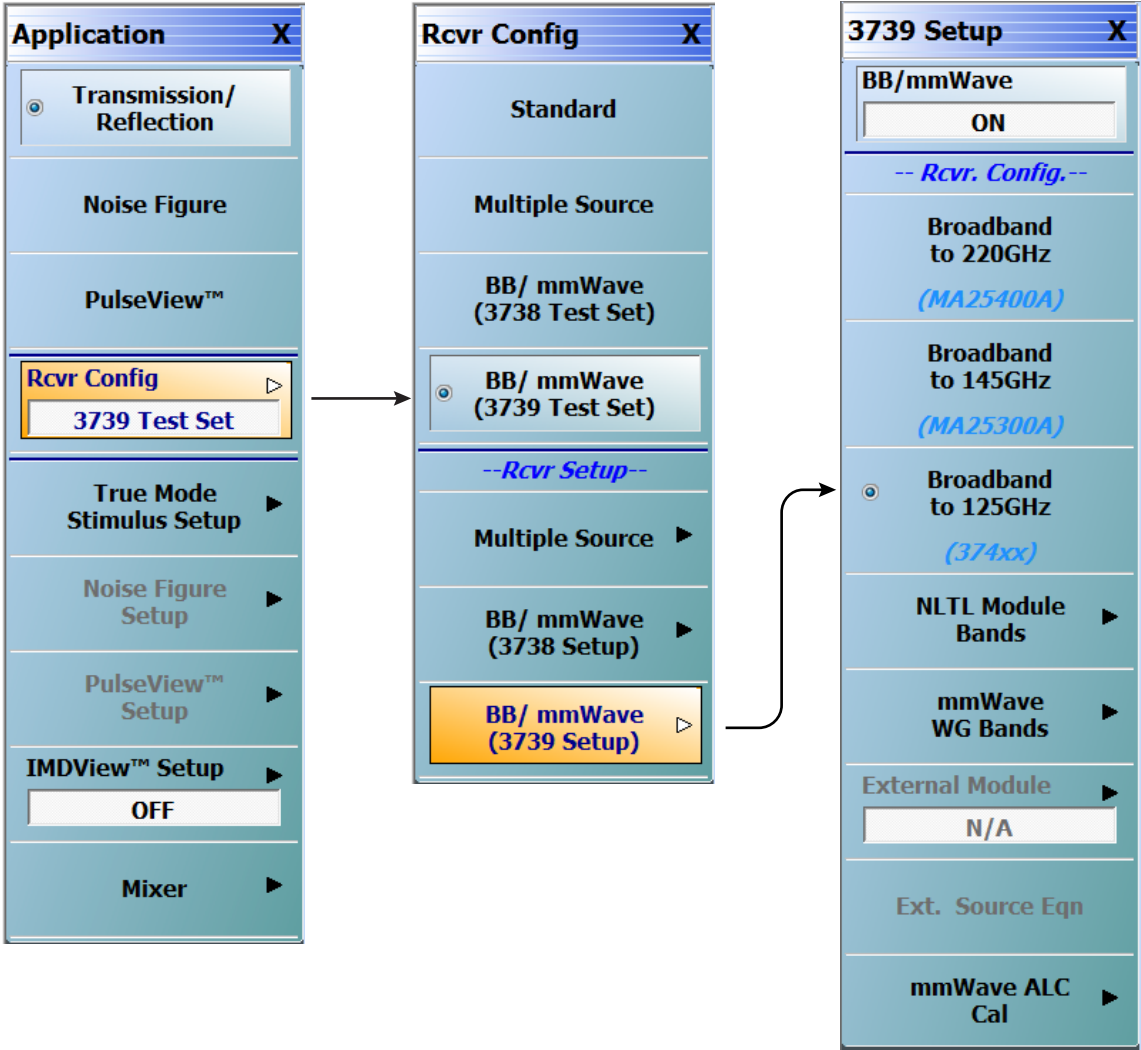

Figure 3-10. 3739 Setup for Broadband Modules (MS464xB Systems)
- 5. Select Broadband to 125 GHz as shown in Figure 3-10